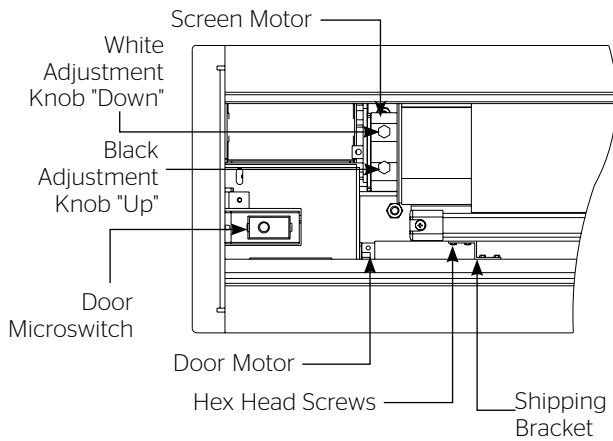

Figure 2
6. Remove shipping brackets by removing the hex head screws from aluminum slat and case. Slat should move freely. See figure 2. (Only if the roller assembly is preinstalled.)
2. When the screen stops, turn the white "down" limit knob (Fig. 2) one-quarter turn counterclockwise. Test by raising picture surface approximately two feet, then lower again. Repeat until desired picture surface position is attained.
3. Turn the white "down" limit switch (Fig. 2) one-quarter turn clockwise. Test by raising picture surface approximately two feet, then lower again. Repeat until desired picture surface position is attained.